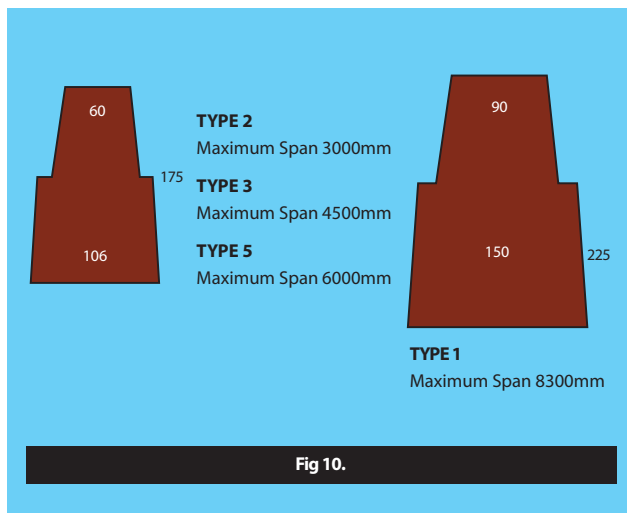

Fig 10.
1. Sizes & Spans (fig 10)
For typical span/load tables and joist positioning please see the below table and Fig 10. A detailed span/load table and associated calculations are available with each individual estimate.